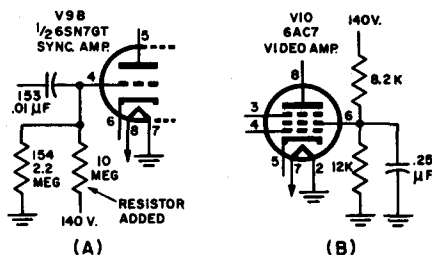

Fig. 73 — Firestone
**Improved sync stability in fringe areas (see Fig. 73).**